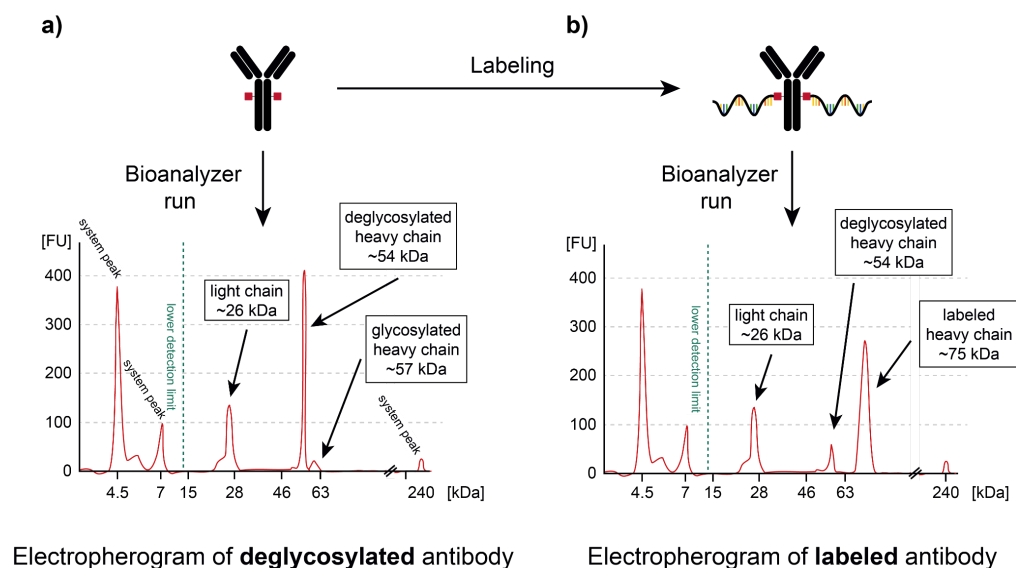

Figure 6. Electropherogram of deglycosylated and labeled antibodies.
6. **Figure 6** shows the relevant peaks to evaluate the labeling efficiency. To measure the labeling efficiency (LE), record the rel. conc. [ng/ μ l] of the following peaks (see **Figure 6** as a reference):
7. **Figure 6** shows the relevant peaks for determination of the labeling efficiency. Copy the concentrations of the peaks into the corresponding cells of the 'Deglycosylation and Labeling Efficiency Calculator' to calculate the labeling efficiency automatically.